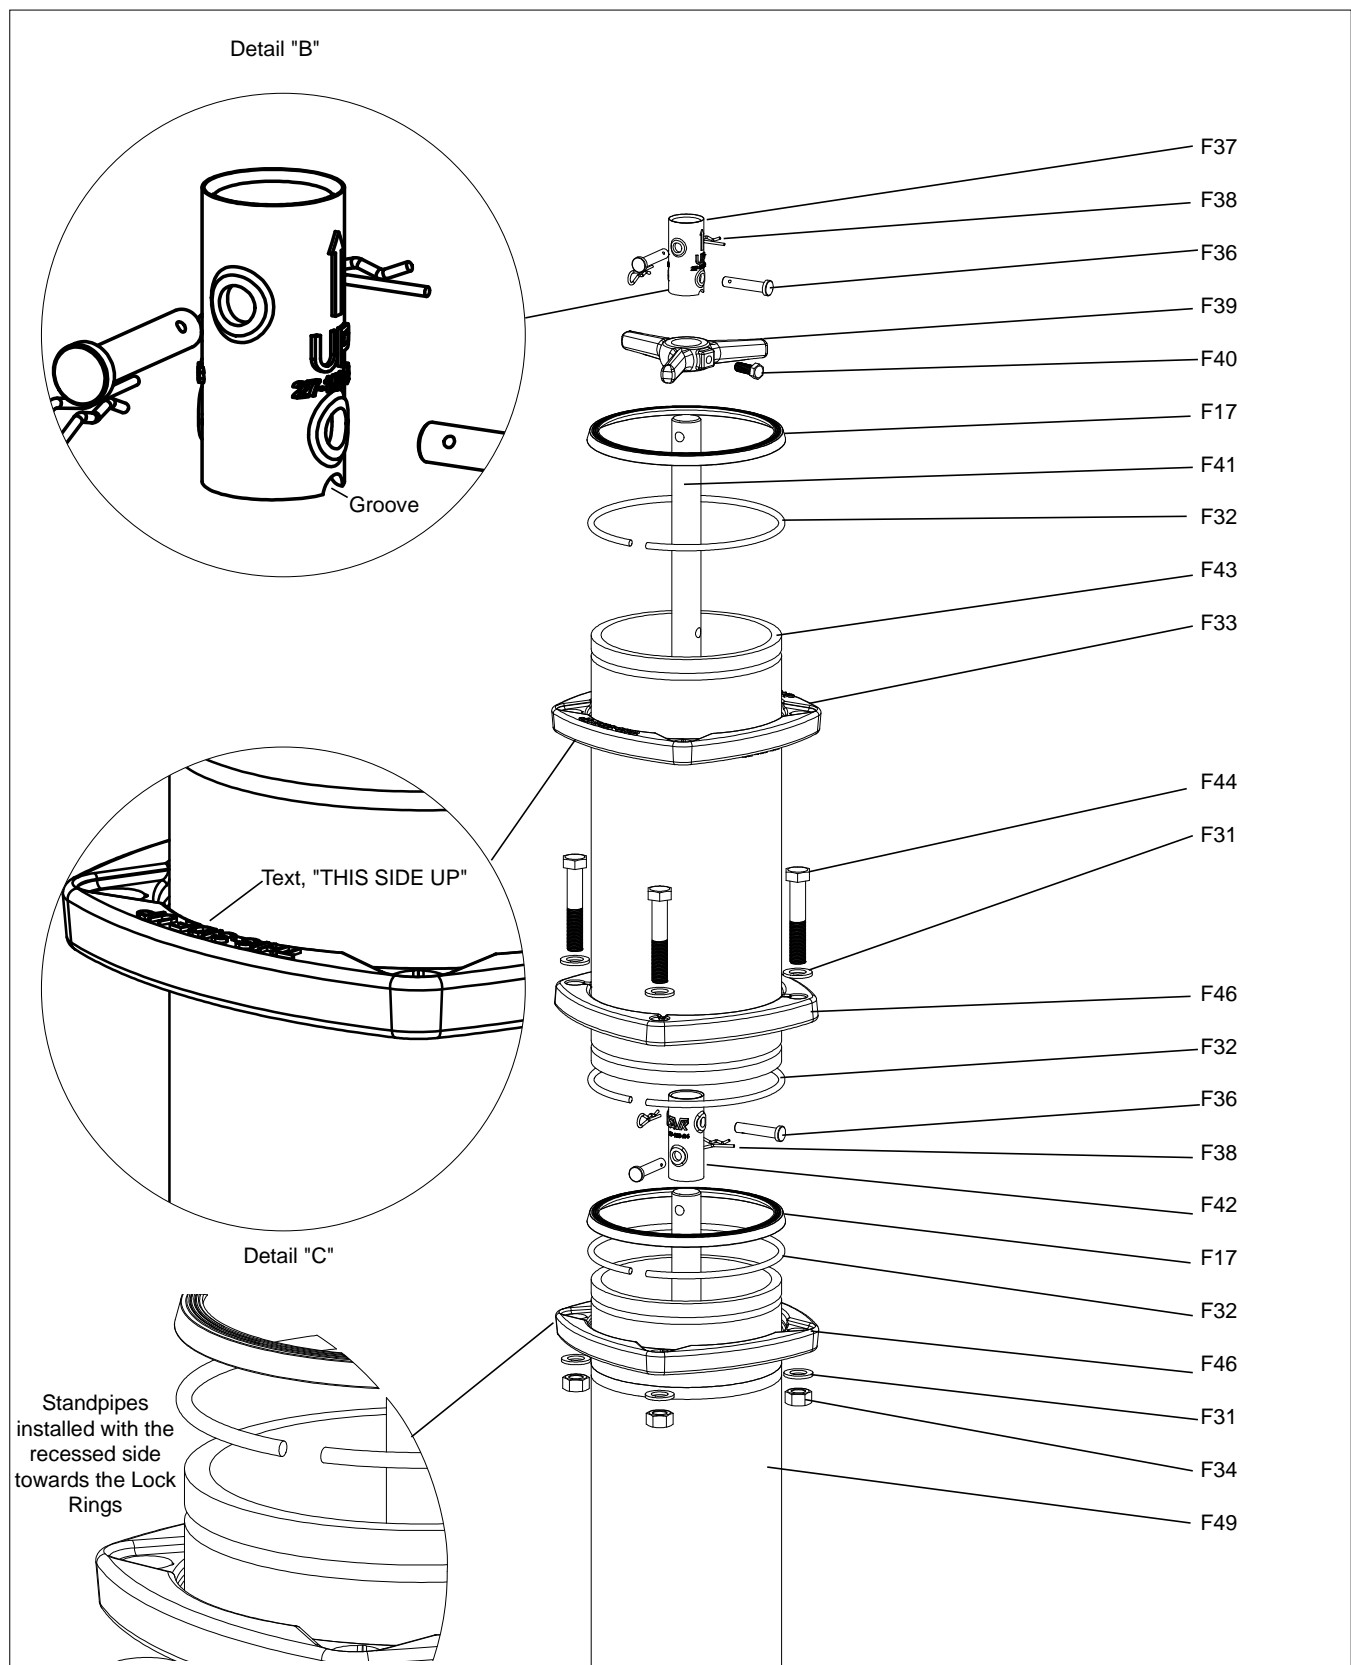

Fig. 10
EXTENSION KITS: Fig. 10
16. Align the bolt holes on the two Standpipe Flanges (F46) and install the Extension Barrel Bolts (F44), Nuts (F34) and Washers (F31) as shown in Figure 10. Tighten to 80 Ft. Lbs..
EXTENSION KITS: Fig. 10 (continued):